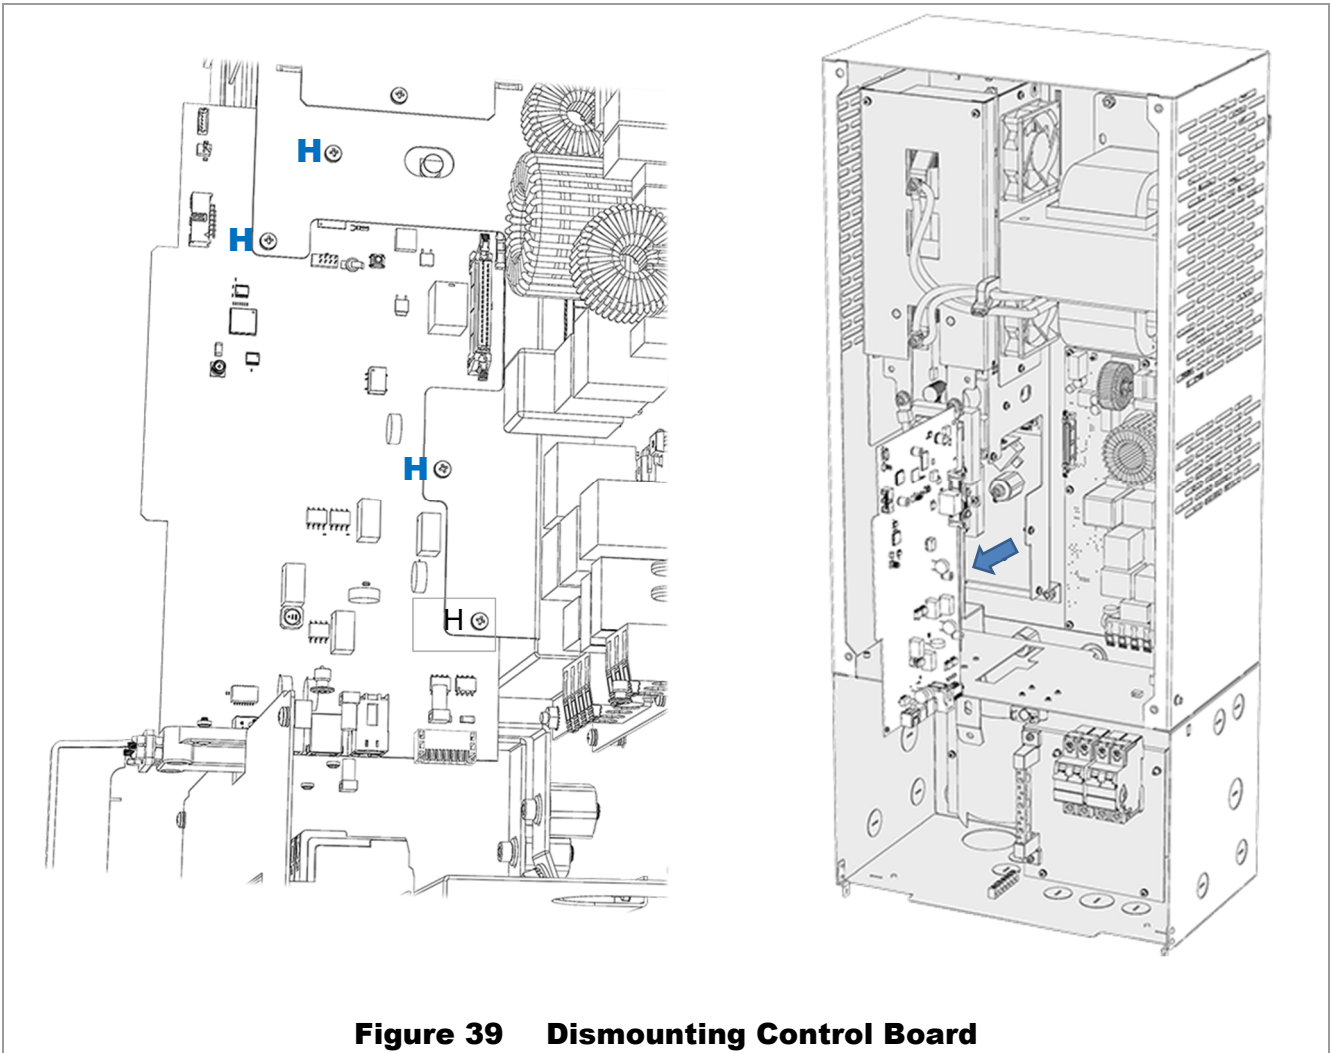

Figure 39 Dismounting Control Board
- Using a #2 Phillips screwdriver, remove 4 screws **H** from the control board. See Figure 39.
- Carefully remove the control board, pulling toward the front of the inverter, as shown in Figure 39.